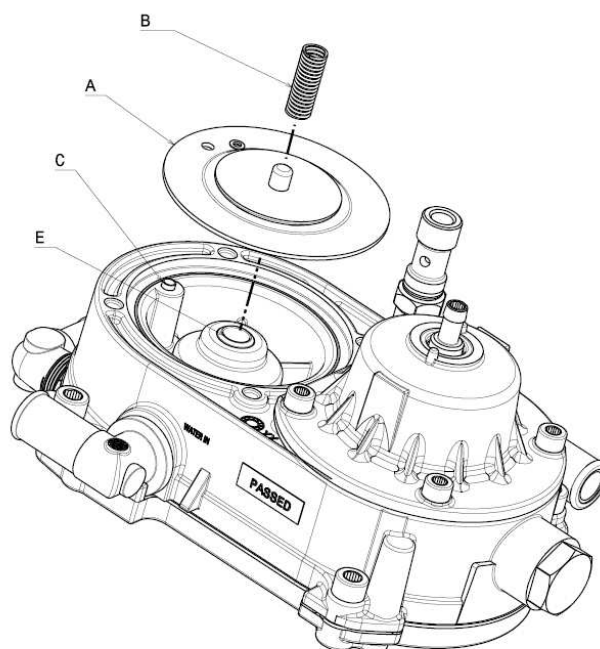

Fig. 8
Remove the spring (B) that's standing on top of the rubber membrane (Fig.8), then replace the membrane (A) with new one (part number X0039).